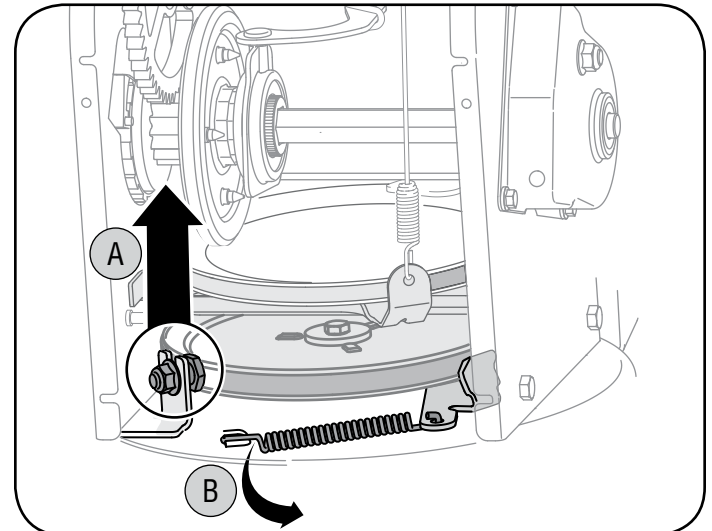

Figure 16
2. a. Turn the shoulder screw a half a turn and slide it out of the mounting bracket. See Figure 16.
b. Unhook spring to release tension on the auger belt. See Figure 16.